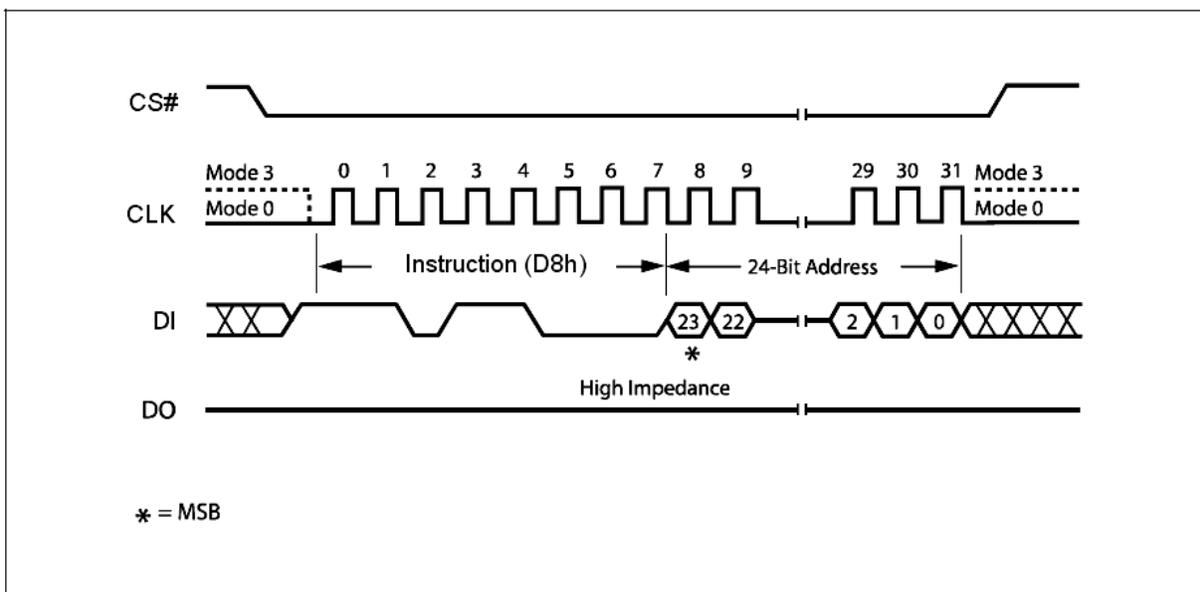

Figure 28. 64KB Block Erase Instruction Sequence Diagram
The instruction sequence is shown in Figure 28. Chip Select (CS#) must be driven High after the eighth bit of the last address byte has been latched in, otherwise the Block Erase (BE) instruction is not executed. As soon as Chip Select (CS#) is driven High, the self-timed Block Erase cycle (whose duration is t_{BE}) is initiated. While the Block Erase cycle is in progress, the Status Register may be read to check the value of the Write In Progress (WIP) bit. The Write In Progress (WIP) bit is 1 during the self-timed Block Erase cycle, and is 0 when it is completed. At some unspecified time before the cycle is completed, the Write Enable Latch (WEL) bit is reset.